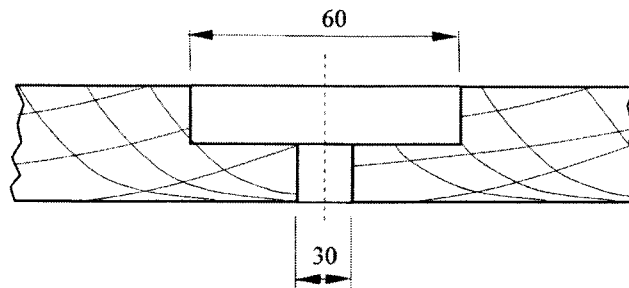

Figure 1
- 3 Figure 1 shows a hole drilled in a piece of timber.